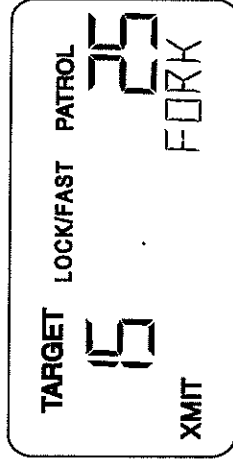

Fig. 47
To perform the tuning fork test: press the **PWR** key, press the **MOV/STA** key and select moving mode, select the **FOPP** mode with the **DIRECTION** key. Press the **TEST** key and wait for the tuning fork mode following the internal test sequence. Turn the transmitter on with the trigger or remote control, then strike the 25 mph (40 kph) tuning fork against a hard nonmetallic surface, such as the heel of a shoe. Quickly hold the tuning fork approximately two (2) inches in front of the antenna, with the narrow edge of the fork facing the antenna. The patrol window should indicate 25 ± 1 mph (40 kph). Then move the higher speed fork in front of the antenna with the narrow edge facing the antenna. The target window should register $15 \text{ mph} \pm 2 \text{ mph}$ (24 kph) (Fig. 47), which is the difference in speed of the two forks. Repeat the above test with the rear antenna selected, if installed.